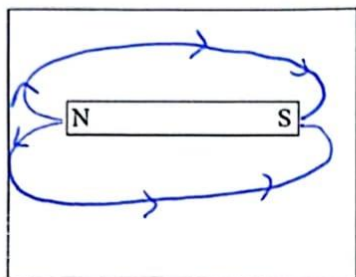

Figure 1.1
2.1.1 Cover each arrangement of the magnets shown in Figures 1.1 to 1.6 with a piece of cardboard/paper (or clear perspex sheet). Sprinkle the iron filings evenly and lightly over the cardboard/paper and gently tap the cardboard/paper until the filings form a pattern.
1. Explain why the iron filings formed different patterns for each of the combinations of Figure 1.1 to 1.10.